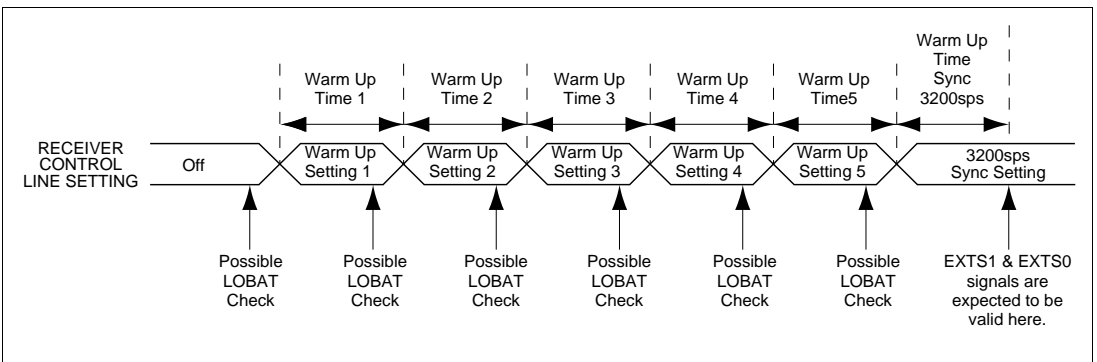

Figure 14.10 Host Initiated Receiver Warm Up Sequence
The host can cause the FLEX™ decoder II to warm-up the receiver in three ways: (1) by turning on the FLEX™ decoder II by setting the ON bit in the control packet; (2) by requesting a noise detect by setting the SND bit in the roaming control packet; or (3) by requesting an A-word search by setting the SAS bit in the roaming control packet. When the FLEX™ decoder II warms up the receiver in response to a host request, the first warm up setting, if enabled, is applied to the receiver control lines for the amount of time programmed for that setting. Each subsequent warm up setting is applied to the receiver control lines for their corresponding time until a disabled warm up setting is found. Once a disabled warm up setting is found, the “3200sps Sync Setting” (for ON and SND warm ups) or the “1600sps Sync Setting” (for SAS warm ups) is applied to the receiver control lines and the decoder does not expect valid signal until after the “3200sps Sync Warm Up Time” (for ON, SND, and SAS warm ups) has expired. In figure 14.10 the receiver warm up sequence when the host initiates a warm-up sequence and when all warm up settings are enabled is shown.